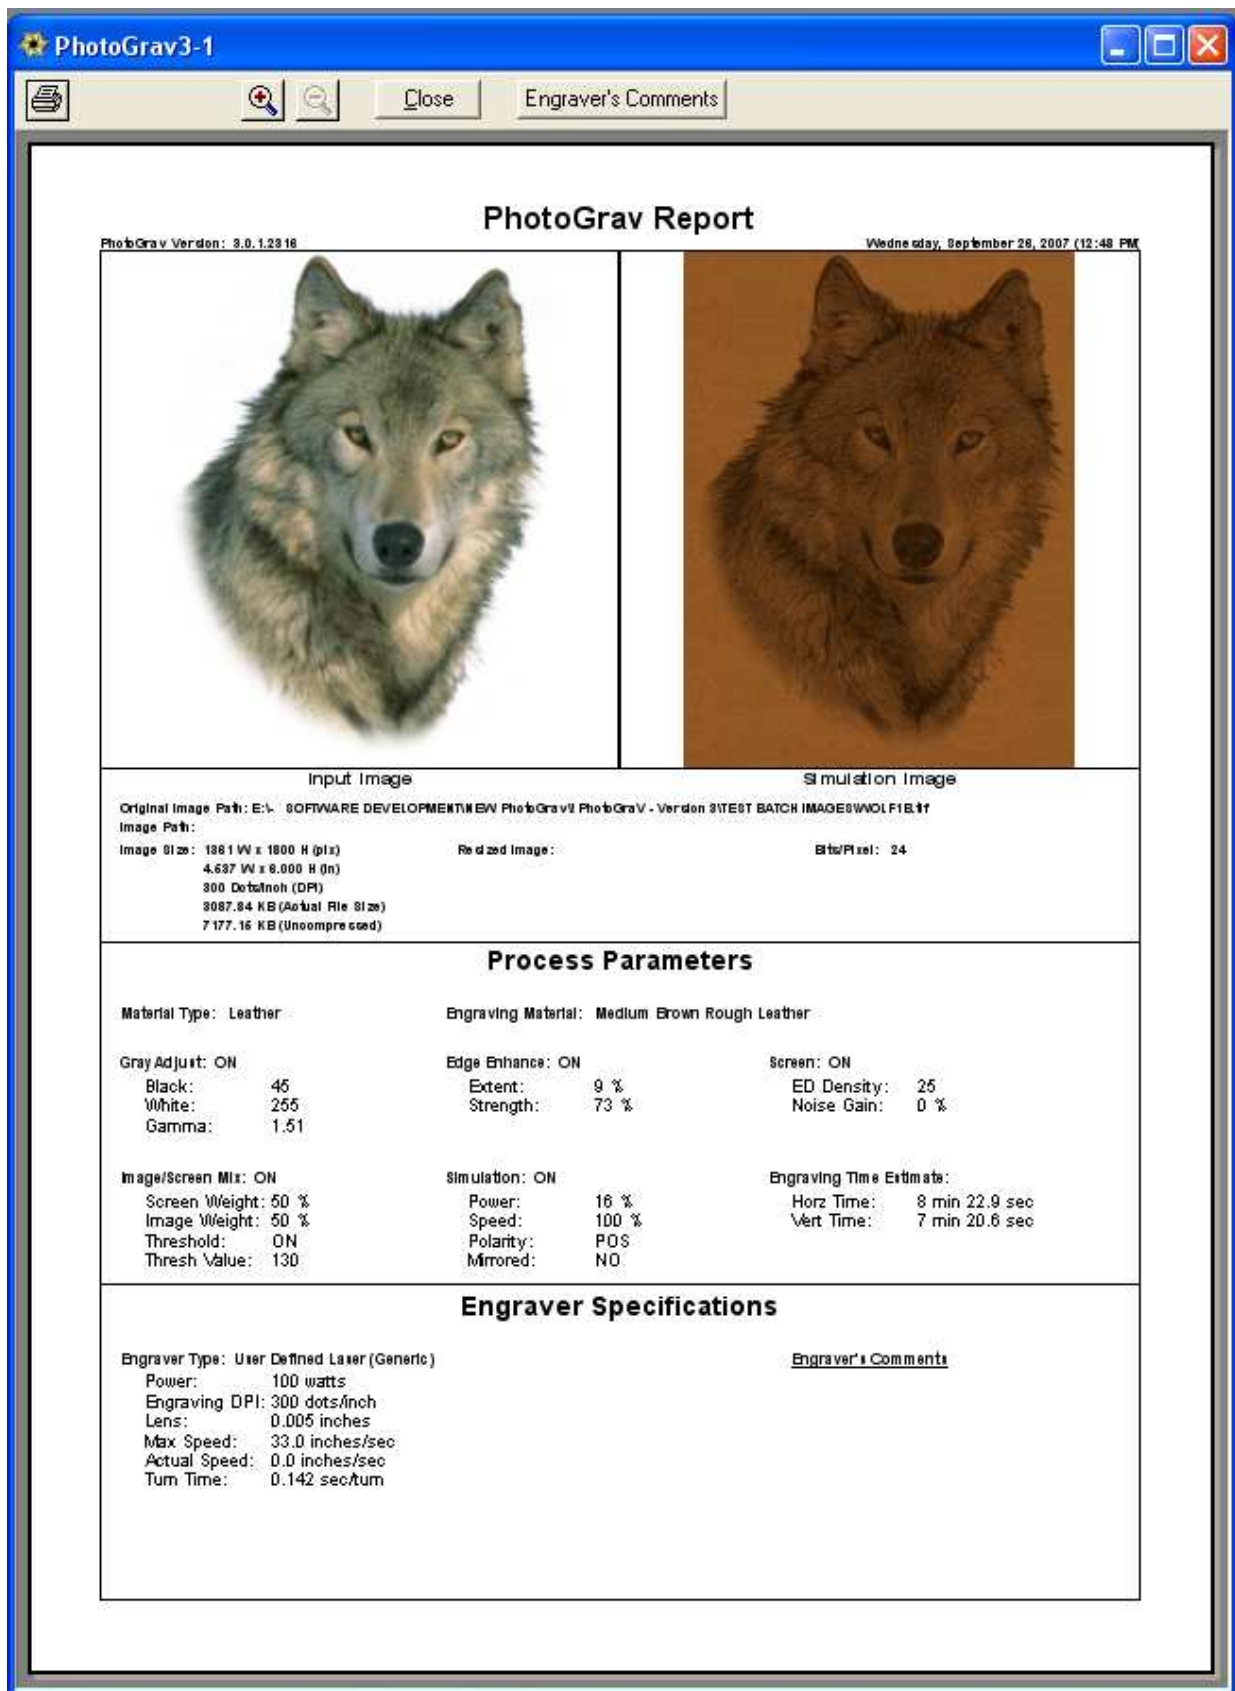

Fig. 1.6.1
6. Refer to Figure 1.6.1 on the next page for the entire display of the **PhotoGrav Session Info Report** screen.